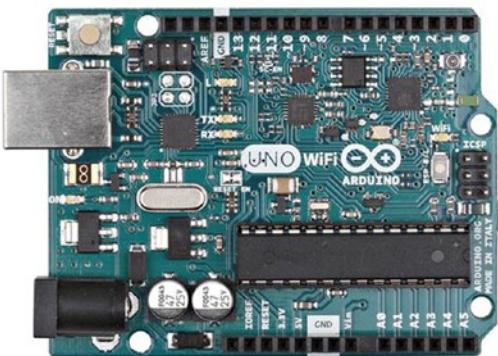

Figure 1-5. Arduino Uno WiFi
Arduino UNO WiFi is an Arduino UNO board with an additional chip (ESP8266). This chip can be used to connect existing WiFi networks and also can work as an access point (AP) node. Arduino UNO WiFi is manufactured by Arduino SRL. You can see the Arduino UNO WiFi form in Figure 1-5. To obtain more information about Arduino UNO WiFi, you can review it on this site: <http://www.arduino.org/products/boards/arduino-uno-wifi>.